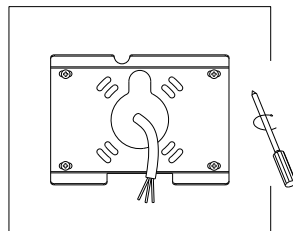

Figure 1-3
3. Align mounting bracket with hole; tighten screws. (Figure 1-3)